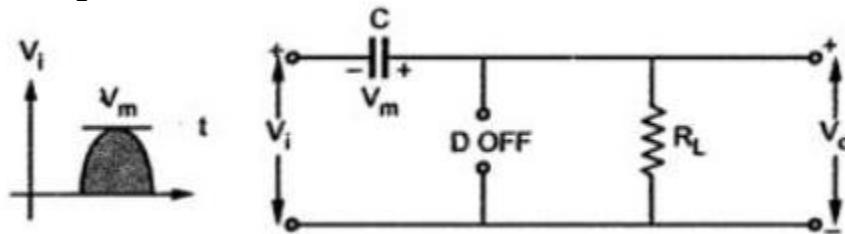

Fig. 2.29 Operation of Positive clamper during Positive half cycle
- But due to large time constant, it hardly gets discharged during positive half cycle of  $V_i$ . This is shown in the Fig. 2.29.